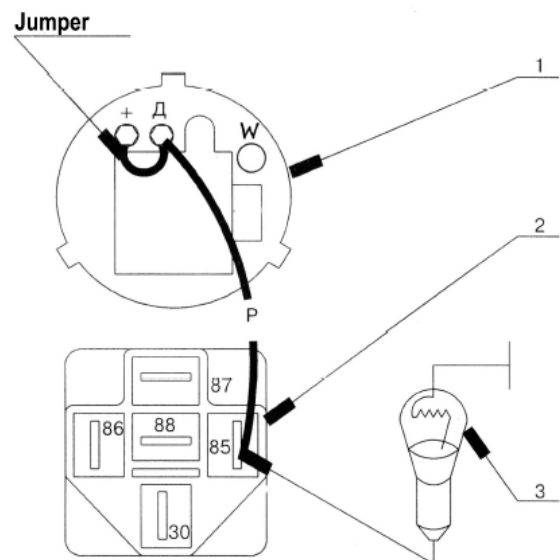

Fig. 12. Checking the integrity of the circuit from the interlock relay K6 to the terminals "Д" of the alternator "G1":
c) Check the integrity of the circuit from the starter interlock relay (K6) to the alternator terminals "Д", (Fig. 12) when the engine is not running and battery disconnect switch is set to the ON position: